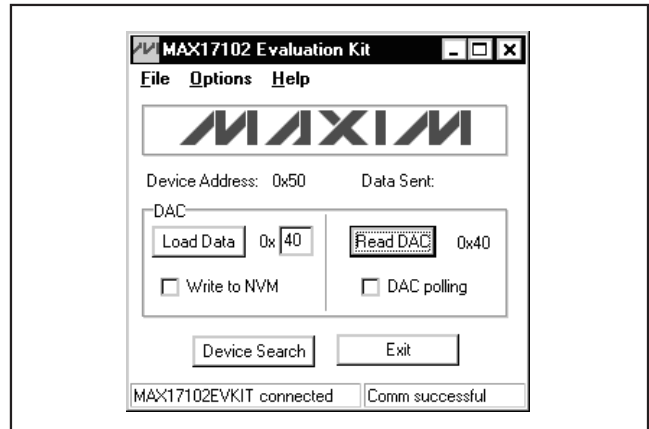
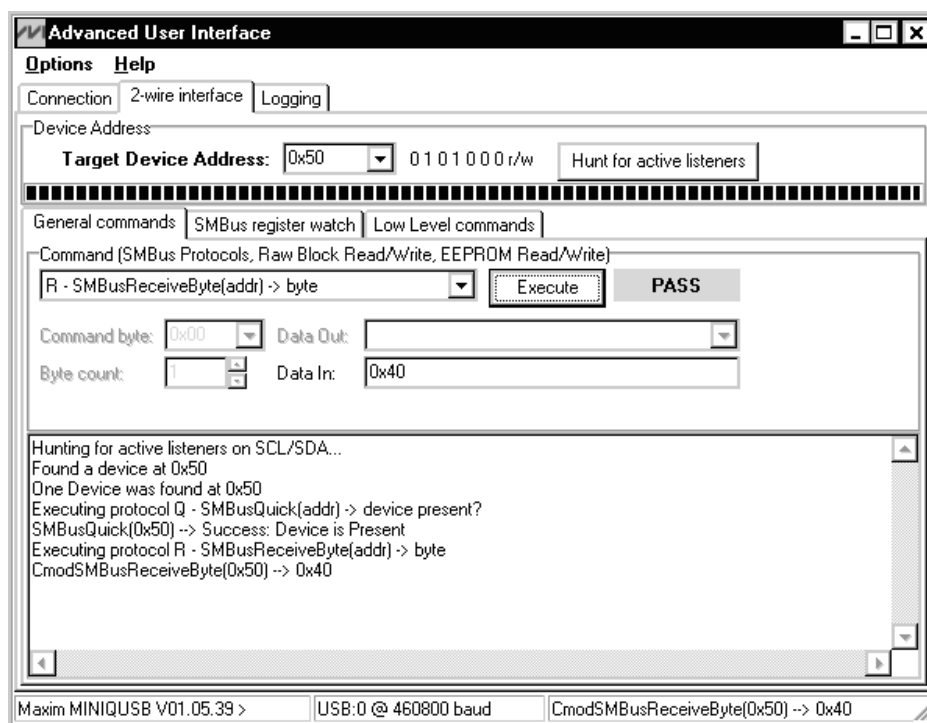

Figure 1. MAX17102 EV Kit Software Main Window
Figure 2. Advanced User Interface Window
- 5) Start the EV kit software by opening its icon in the **Start | Programs** menu. The EV kit software main window appears, as shown in Figure 1.
main window (Figure 1) or through the **Advanced User Interface** window available by selecting the **Options | Interface (Advanced Users)** menu item from the menu bar. The **Advanced User Interface** window (Figure 2) includes a **2-wire interface** tab that allows for execution of the **SMBusWriteByte()**, **SMBusReceiveByte()**, and **SMBusQuick()** commands. See Table 1 for SMBus command details.
The **Command byte** combo box accepts numeric data in binary, decimal, or hexadecimal. Hexadecimal numbers should be prefixed by \$ or 0x. Binary numbers must be exactly eight digits. See Figure 2 for an illustration of this tool.